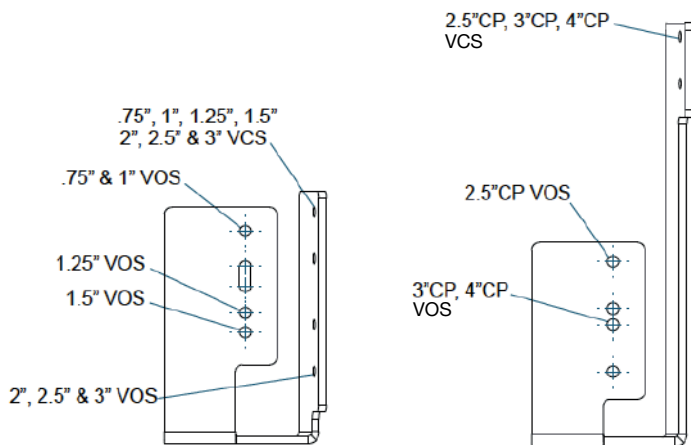

Figure 4:
- Note wand position and mounting hole location. Carefully remove the 2 screws and lift existing switch. Reference Figures 4 through 9 on page 50 (ADD SWITCHES) to ensure correct switch location.
- Reference Figures 4 through 9 (below) to ensure correct switch location. Valve size is depicted in the model number by the first 4 dig- its. For example, a 3" CP valve should have Model No. 300C.